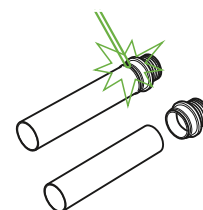

Fig. B10.2.1
1. Before installation of a compression connector to the FibreFlex pipe, the building's pipe system must be welded to the internal side of the steel coupler. If the welding has to be done later, weld a short piece of steel pipe (at least 400 mm long), which can then be welded at a later time (Fig. B10.2.1).